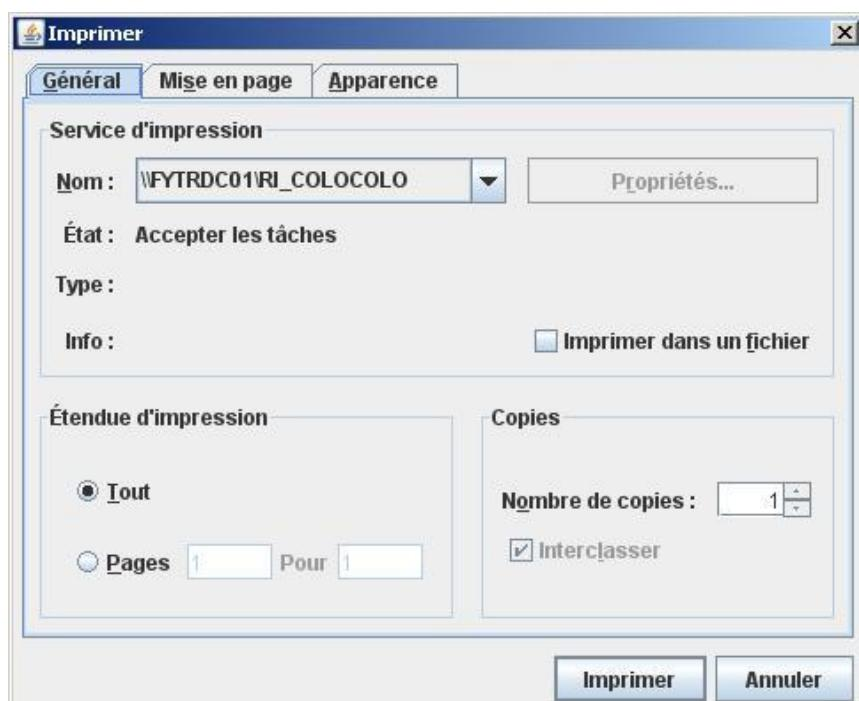

Figure 46
- Open the printing screen, See Figure 46.